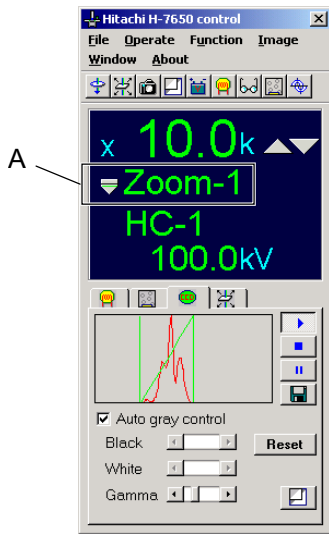

Fig. 3-35 Easy operation Window
- (b) Double-clicking on section A in Figs. 3-35 and 3-36 will open the Lens mode set window the same as in (a).